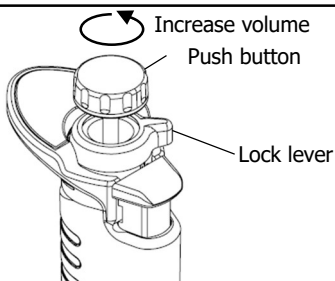

Fig. 6-1
- 2) Unlock the lock lever, and set the volume approx. 50% of the maximum volume. (Fig. 6-1)